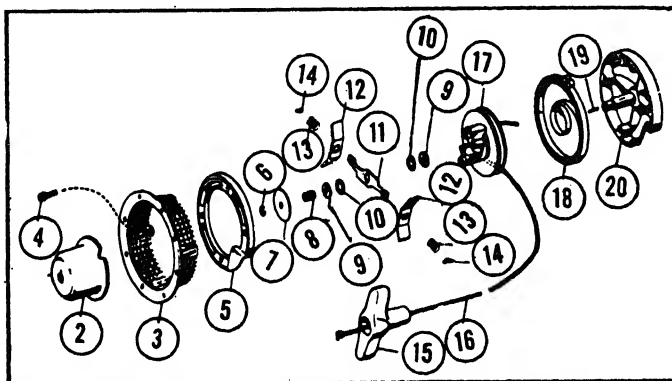

FIGURE 26 - STARTER PARTS (Reference numbers shown on Legend, Figure 32.)
(refer to Figure 26, below)
- 1) Loss of spring (Ref.8, Fig.26) can be avoided by holding washer (Ref. 7, Fig.26) in position with the hand while removing Truarc retaining ring (Ref. 6, Fig. 26) with a screwdriver.
- 2) Remove the following parts and assembly: Large Washer (Ref.7, Fig.26); Spring (Ref. 8, Fig.26); Washers (Ref. 9,10, Fig.26); Friction Shoe Assy.(Ref. 11,12,13,14, Fig.26); Washers (Ref. 10,9, Fig. 26).
- 3) To prevent spring rotation of rotor (Ref. 17, Fig.26) cord can be held while removing the 4 screws. Continue to hold assembly and remove flanges (Ref.3,5, Fig.26). Now the tension on the rewind spring can be relieved by releasing hold and allowing spring to rewind.
When installing a new cord (Ref.16, Fig.26) in rotor (Ref.17, Fig.26) tie single knot in end.
Thread cord through rotor hole. Then wind rope on rotor. Replace handle (Ref.15, Fig.26) tying with a double knot.
Starting with the inside loop, remove Spring (Ref.18, Fig.26) from cover (Ref. 20, Fig.26) by pulling out one loop at a time, holding back rest of turns. When replacing with new spring, note position of spring loop. Spring holders furnished with replacement springs simplify the assembly procedure. Place spring in proper position as shown with the outside loop engaged around the pin. Then press spring into cover cavity, thus releasing the spring holder. A few drops of SAE #20 or #30 oil should then be applied to spring and light grease to cover shaft.
- 1) Place rotor (Ref.17, Fig.26) complete with cord and handle, into cover (Ref.20, Fig.26) and hook inside loop of spring (Ref.18, Fig.26) to rotor with aid of screwdriver.
- 2) Replace the following parts and assembly: Washers (Ref.9,10, Fig.26); Friction Shoe Assy. (Ref.11,12,13,14, Fig.26); Washers (Ref.10,9, Fig.26); Spring (Ref. 8, Fig.26) Large Washer (Ref. 7, Fig. 26); Truarc Retaining Ring (Ref. 6, Fig.26).
- 4) Holding cord, the following parts are replaced: Flanges (Ref.5,3, Fig.26) and Screws (Ref. 4, Fig. 26)